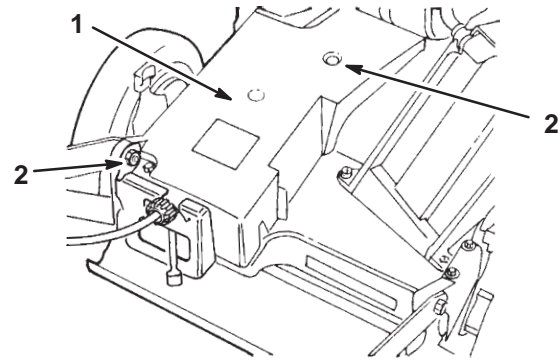

Figure 35
1. With the engine turned off, remove the two bolts securing the belt cover (Fig. 35) to the mower housing.